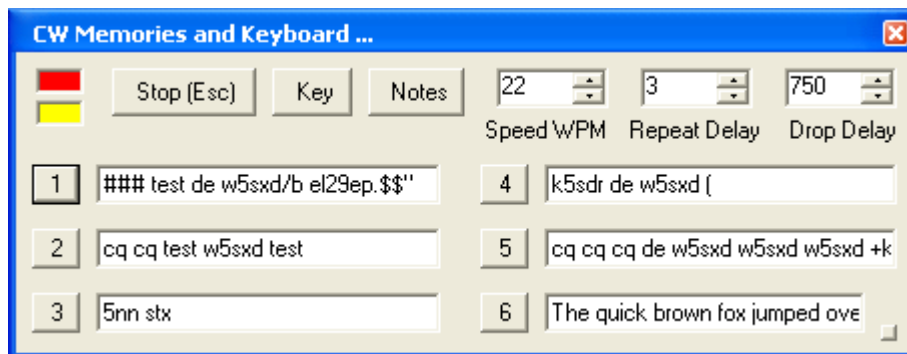

Figure 142: CWX Form
If you wish to send CW automatically, click on **CWX (31)** on the Front Console menu to open the CWX Form shown Figure 142 below. (Refer to the CWX Form section on page 123 for more detail on how to use this form).